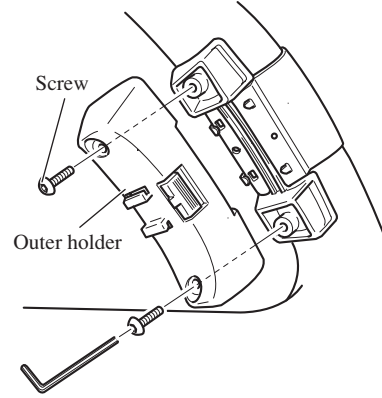

Fig. 18
3. Install outer holder on the inner holder and secure with screws. (Fig. 18)